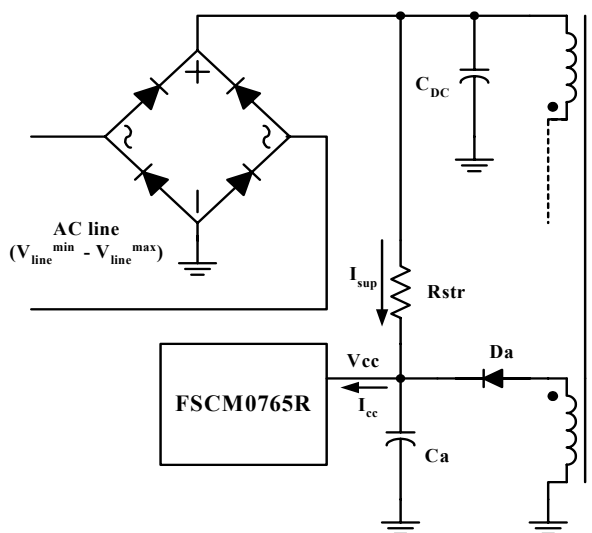
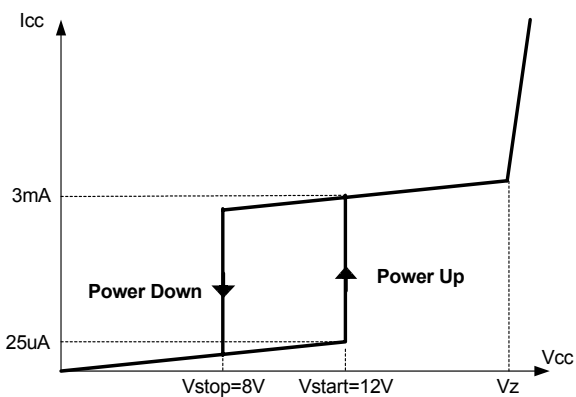

Figure 4. Startup circuit
Figure 5. Relation between operating supply current and Vcc voltage
1. Startup : Figure 4 shows the typical startup circuit and transformer auxiliary winding for FSCM0765R application. Before FSCM0765R begins switching, FSCM0765R consumes only startup current (typically 25uA) and the current supplied from the DC link supply current consumed by FPS (I_{cc}) and charges the external capacitor (C_a) that is connected to the Vcc pin. When Vcc reaches start voltage of 12V (V_{START}), FSCM0765R begins switching, and the current consumed by FSCM0765R increases to 3mA. Then, FSCM0765R continues its normal switching operation and the power required for this device is supplied from the transformer auxiliary winding, unless Vcc drops below the stop voltage of 8V (V_{STOP}). To guarantee the stable operation of the control IC, Vcc has under voltage lockout (UVLO) with 4V hysteresis. Figure 5 shows the relation between the current consumed by FPS (I_{cc}) and the supply voltage (Vcc).